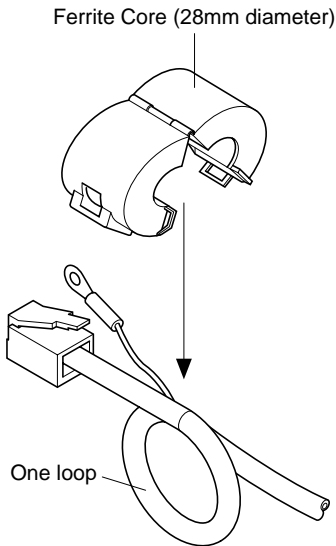

Fig. 3-2
- The ferrite core is normally packed so it is opened, as shown in Fig. 3-2. If you find that the ferrite core is not opened: Use a pointed object to pry the plastic lock of the ferrite core apart, as shown in Fig. 3-1. When opening it, take care not to damage the ferrite core or the plastic lock.
- Clamp the ferrite core onto the cash drawer drive cable, looping the cable as shown in Fig. 3-2.